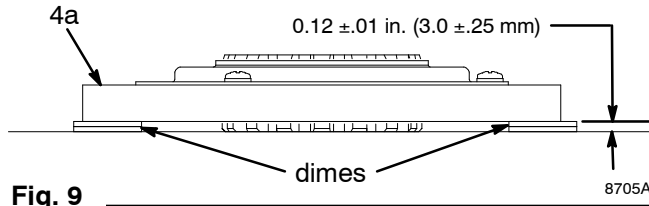

Fig. 9
1. Fig. 9. Lay two stacks of two dimes on smooth bench surface.